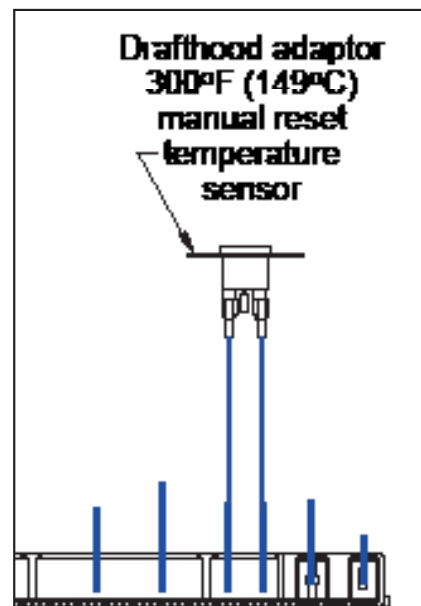

Figure 41: Spill Switch Wiring Diagram
Step 5: Insert the stripped spill switch wires into the ON/OFF terminal block and tighten the set screws. Note, there is no polarity to the spill switch wires so it will work in either position of wires (Figure 41).